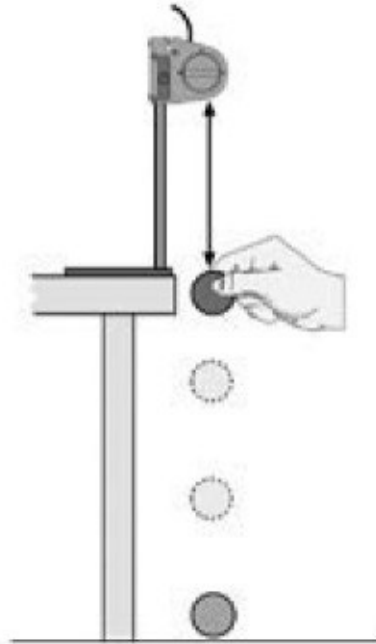

Figure 19-2 *Courtesy PASCO.*
5. Hold the ball just under the motion sensor, as shown in Figure 19-2. Start the readings and release the ball. Try to avoid imparting any vertical momentum to the ball by letting it drop without an initial push or delayed release.